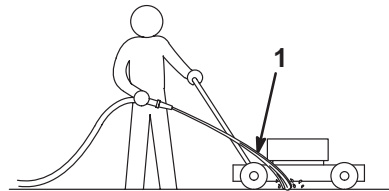

Figure 14
3. Hold the running garden hose at handle level and direct the water to flow on the ground just in front of the right rear tire (Fig. 14).